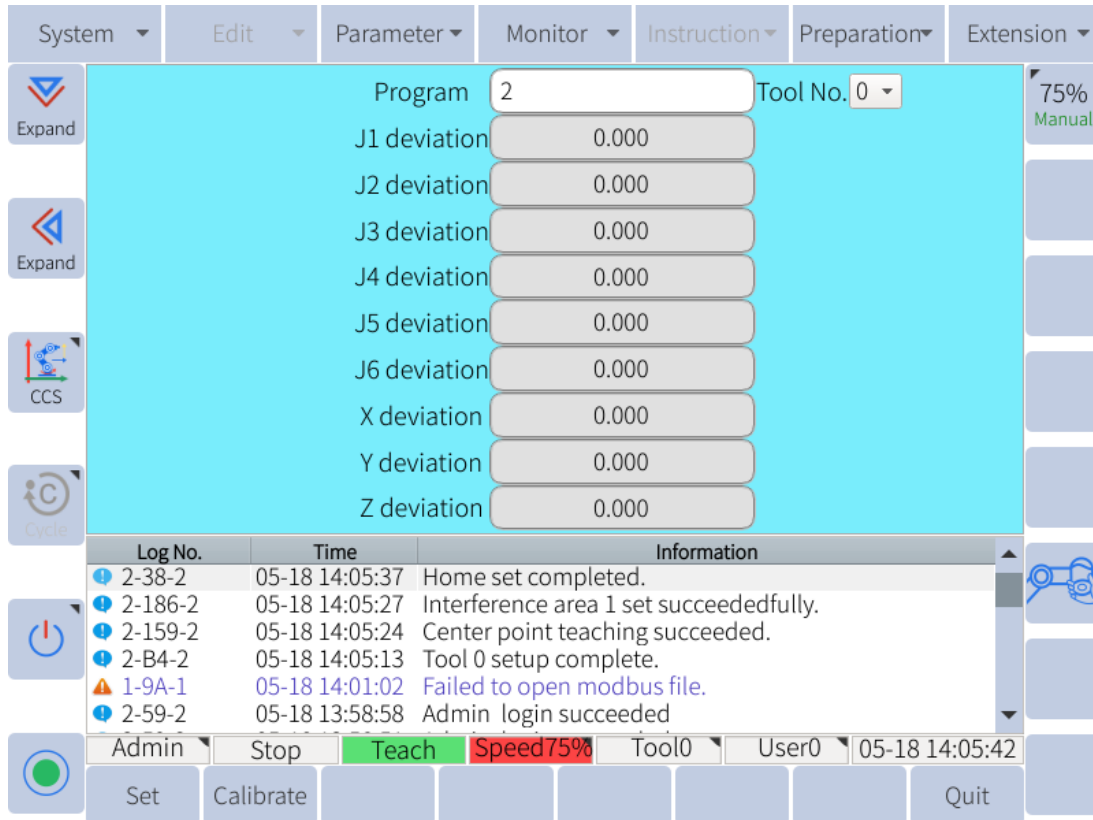

Figure 6-66 : Home position calibration
2. Go to **Preparation -> Home Position -> Zero Calibration**, as shown in **Figure 6-66**.